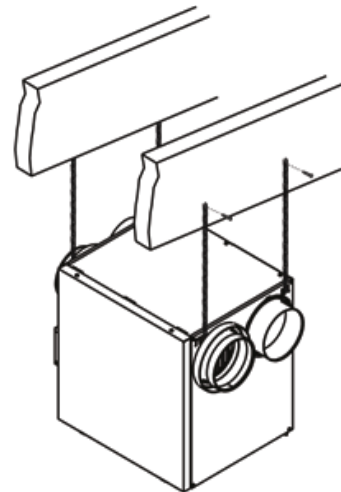

Fig. 2 – Suspended to Joist or Truss
- Slightly bend the brackets on the unit to insert the provided chains (Fig. 2).